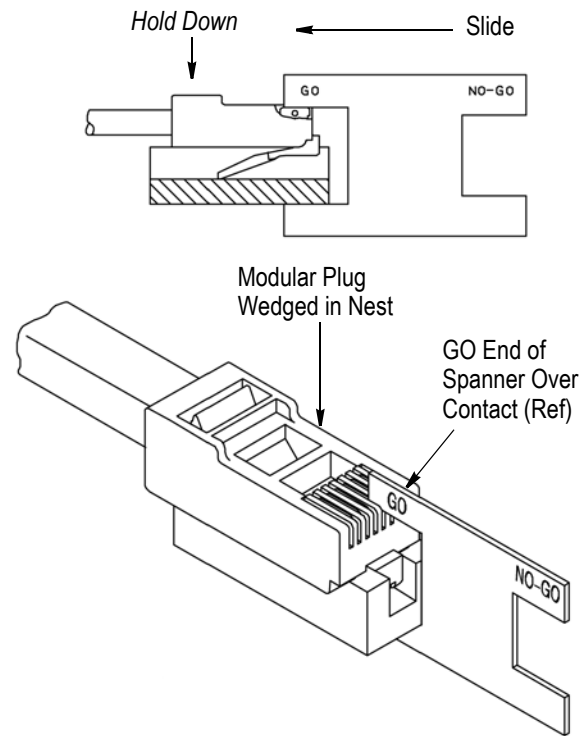

Figure 2
1. Push down firmly on the crimped modular plug, and slide the locking latch of the modular plug into the nest, wedging the modular plug in so that it is held tightly. Refer to Figure 2 .
2. While holding the modular plug in the nest, slide the GO end of the spanner over each contact as shown in Figure 2 . Repeat this step with the NO-GO end of the spanner.